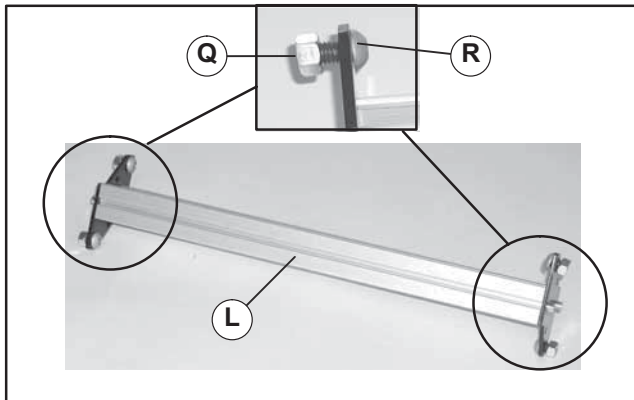

Figure 3
3. Install four button head screws (Figure 3, item R) and hex nuts (Q) on crossmember (L). Do not tighten screws.